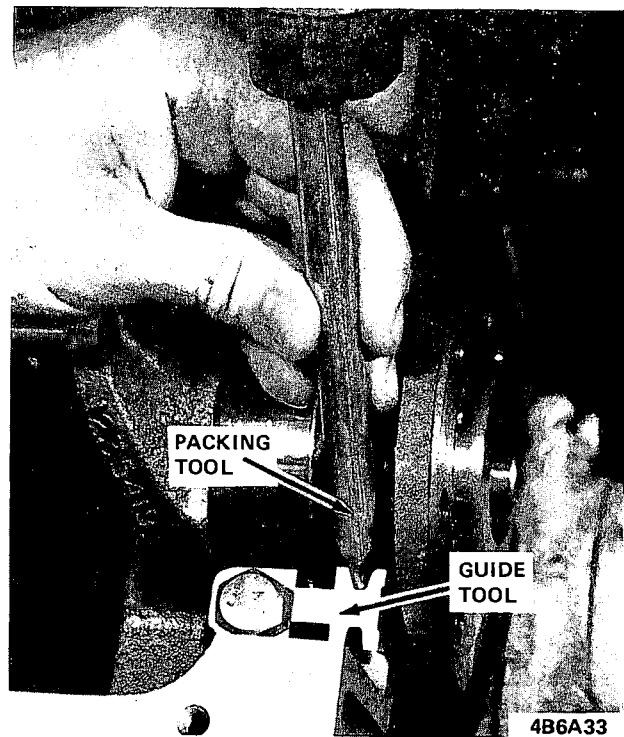

Figure 6A-80 Packing Short Pieces of Rope Seal into Guide Tool and Cylinder Block
6. Using packing tool, work the short pieces cut in Step 4 into the guide tool and then pack into cylinder block. The guide tool and packing tool have been machined to provide a built-in stop. Use this procedure for both sides. See Figures 6A-79 and 6A-80.